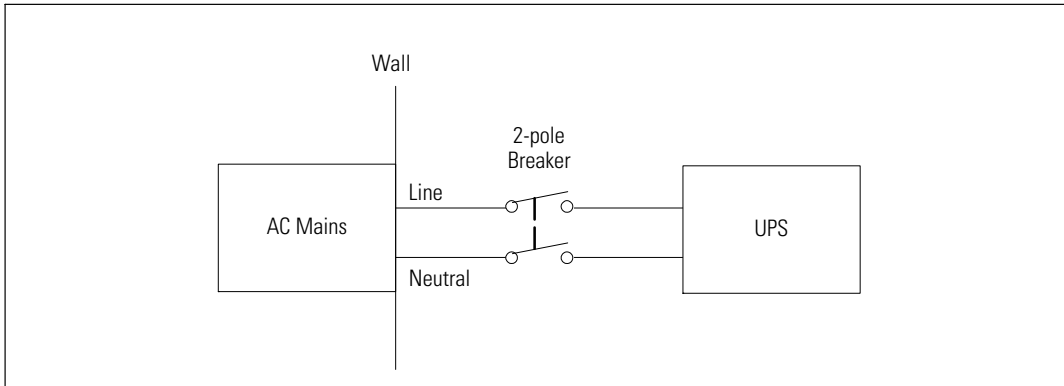

Figure 19. Circuit Breaker Diagram
- The protection device requires a two-pole disconnection device between the UPS output and the load (see Figure 19)